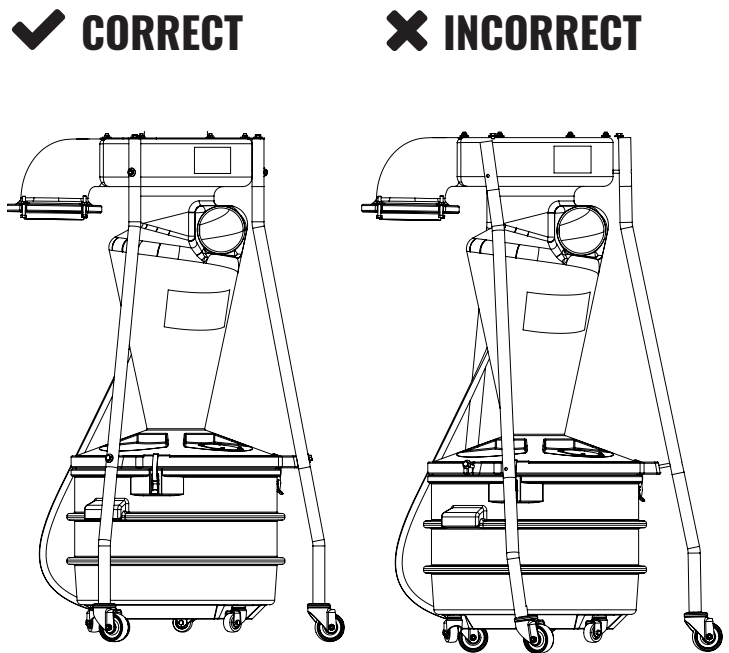

FIG. 5
- 5** Align the legs so that they are square and even with the drum and body. [FIG. 5]